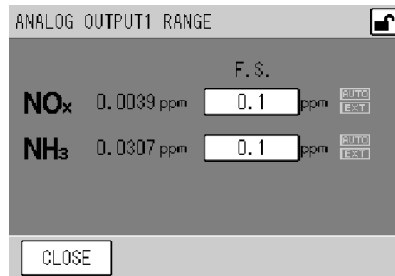

Fig. 64 ANALOG OUTPUT1 RANGE screen
- [ANALOG OUTPUT1 RANGE]: Displays the ANALOG OUTPUT1 RANGE screen (Fig. 64 on page 52).